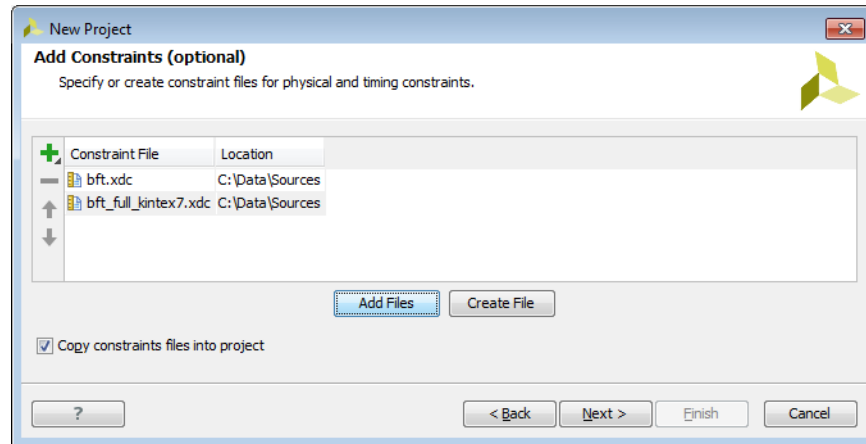

Figure 2-5: New Project Wizard—Add Constraints Page
5. *Optional:* In the Add Constraints page (Figure 2-5), set the following options, and click **Next**:
4. *Optional:* In the Add Constraints page (Figure 2-5), set the following options, and click **Next**: